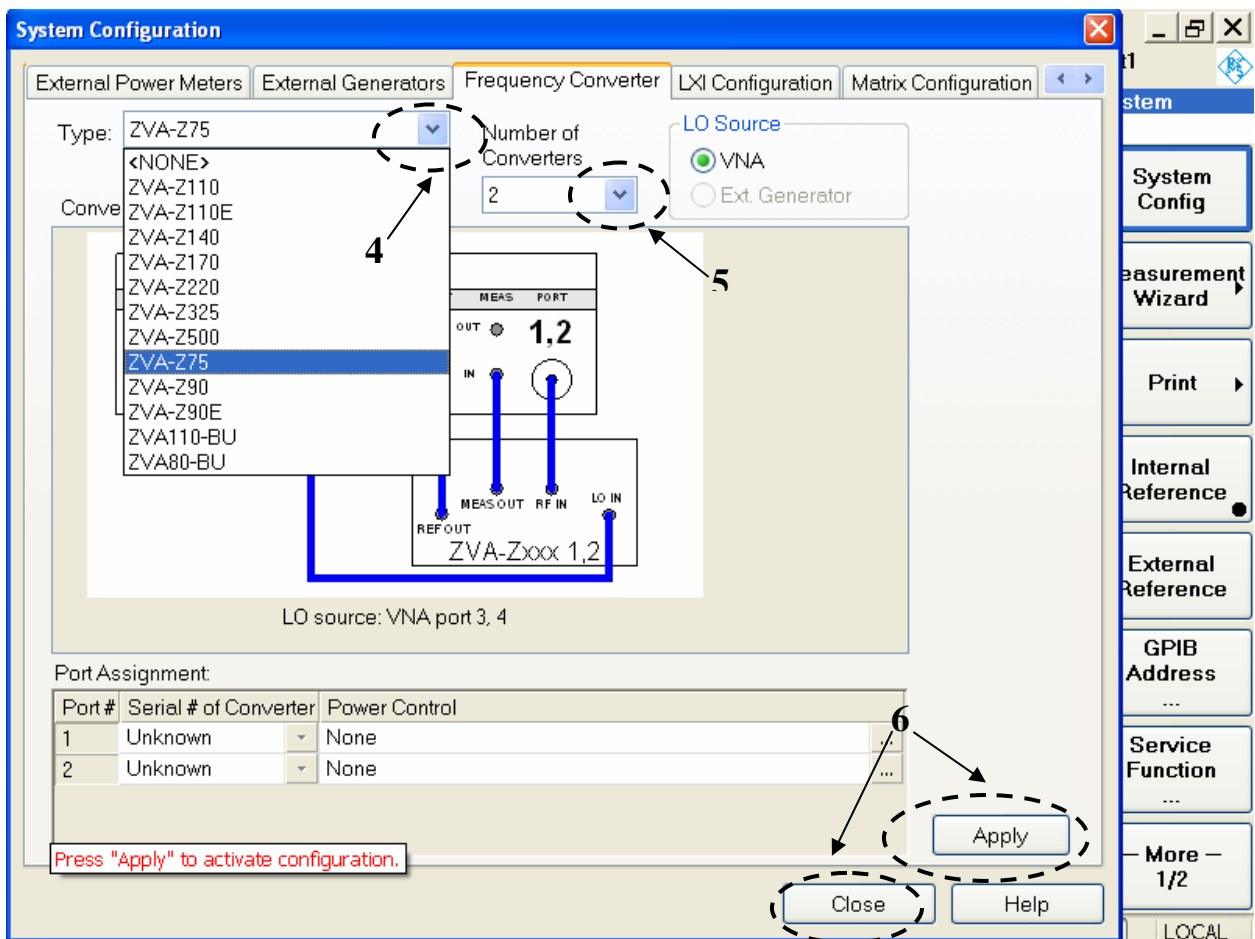

Figure 3 – System Configuration Table with Freq. Extender Model Numbers
4. Click on the “Type” pull down selection and highlight the frequency extender to be used in the setup with the mouse (Figure 3).
5. Click on the “Number of Converters” pull down selection and select the number of converter attached to the vector network analyzer, if different from two (2).